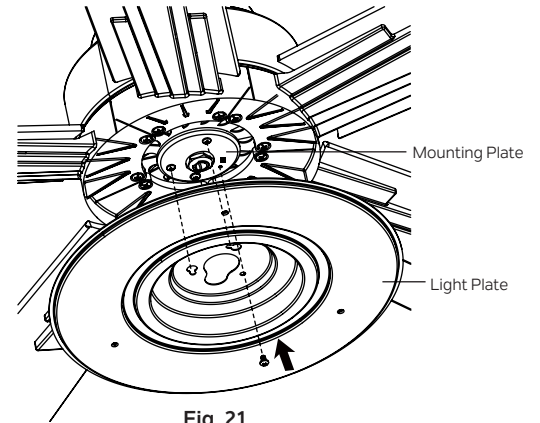

Fig. 21
Step 2. Place the two slot holes on the light plate over the 2 screws previously loosened from the mounting plate. Rotate the light plate until it locks in place at the narrow end of the key holes. Secure by tightening the 2 screws previously loosened and the one previously removed. (Fig. 21)